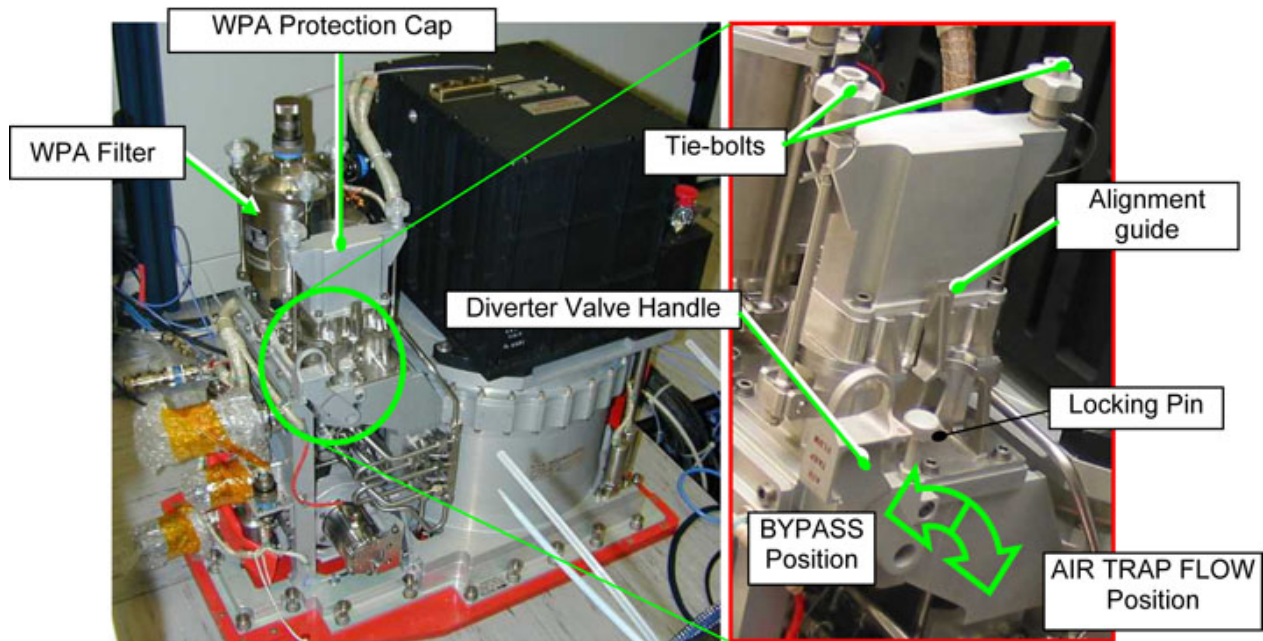

Figure 6. WPA Hydrocyclone Installation Location, Typical
- 3.2 Progressively loosen the WPA tie-bolt thumbnuts (two)  $\curvearrowright$  about 20 turns until the tie-bolts tilt outward (Ratchet Wrench, 1/4"; 102 mm Extension, 1/4" Drive; M8 (13 mm) Socket, 1/4" drive). Refer to Figure 6.
- 3.3 Remove WPA Protection Cap from Water Pump Assembly. Refer to Figure 6.
- 3.5 Align and install the WPA Hydrocyclone on the WPA with the By-pass tubing oriented against the WPA Filter. Refer to Figure 6 and 8.